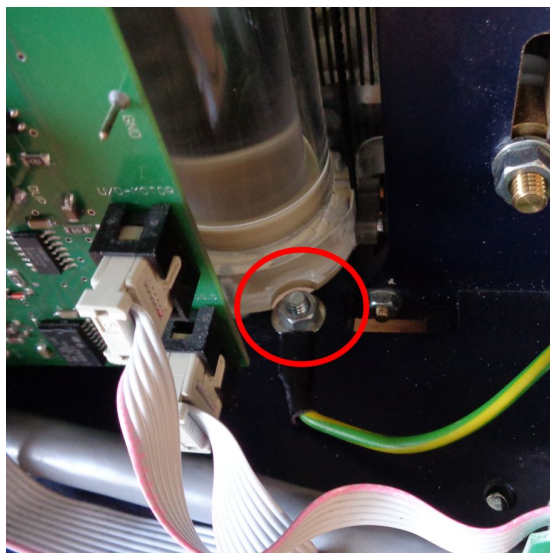

Figure 5: Nut with grounding cable
- You have access inside, unscrew marked nut in Figure 5